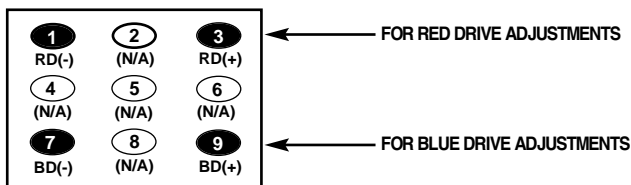

Figure 6. Remote Control Number keys' functions in Service Menu No. 72 DRV
12. Adjust Red and Blue Drive Levels alternately with **1**, **3**, **7**, or **9** key to produce normal black and white picture in highlight areas. (See Figure 6.)